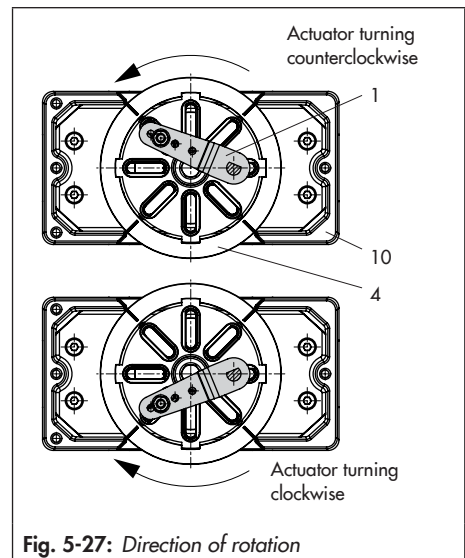

Fig. 5-27: Direction of rotation
4. Fasten coupling wheel (4) on the slotted actuator shaft or adapter (3) using screw (4.1) and disk spring (4.2).
5. Unscrew the standard follower pin (2) from the positioner's M lever (1). Attach the follower pin (Ø5 mm) included in the mounting kit to pin position 90°.
6. Place positioner on housing (10) and screw it tight. Taking the actuator's direction of rotation into account, adjust lever (1) so that it engages in the correct slot with its follower pin (see Fig. 5-27).